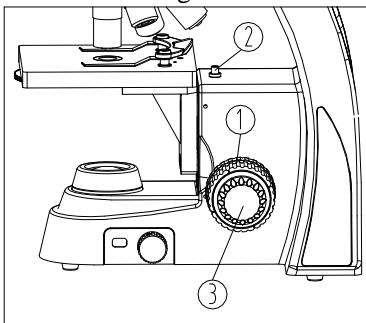

Fig. 9
2. Observe the right eyepiece with right eye, rotate the coarse focusing knob ① until the specimen outline appears in the view field (see Fig. 9).
3. Rotate the fine focusing knob ③ for clear details.